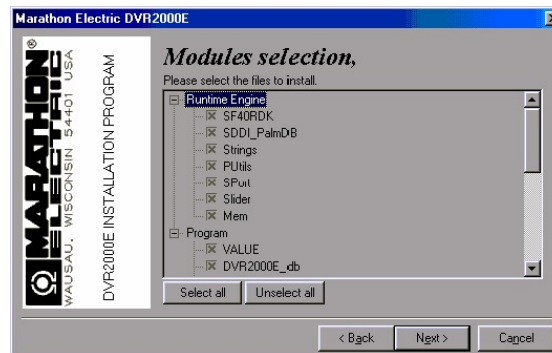

Figure 6-3. Modules Selection Screen
3. Accept the default installation location by clicking **Next>** or change the location to the desired folder and click **Next>**. The Modules Selection Screen (Figure 6-3) appears.